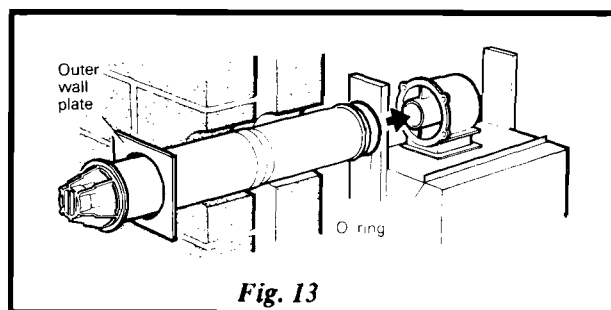

Fig. 13
14.12 Fit the flue/terminal assembly - see Fig. 13 (side flue).